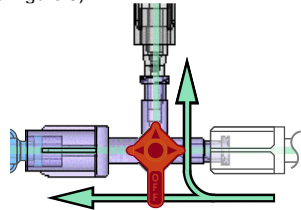

Figure 5 – Contrast Injection (Savings ON)
- a. To save contrast during a contrast injection, orient the DyeVert Power XT Stopcock such that it is ON to both the *Valve Selection Stopcock* and the catheter. (See Figure 5)